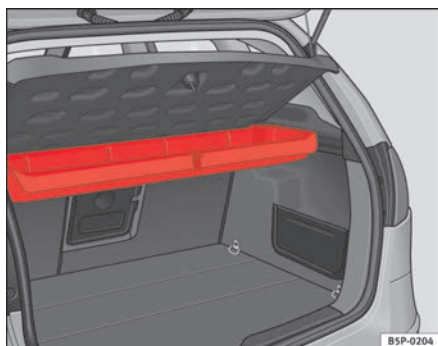
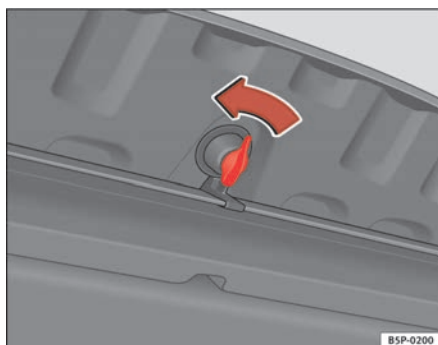

Fig. 121 Warning triangle storage under the rear cover
Fig. 122 Opening the storage compartment
The warning triangle* is located in a stowage box under the luggage compartment cover ⇒ fig. 121. To open this storage compartment, turn the knob* 90° ⇒ fig. 122.
- Open the storage compartment by turning the knob* 90° ⇒ page 149, fig. 122.